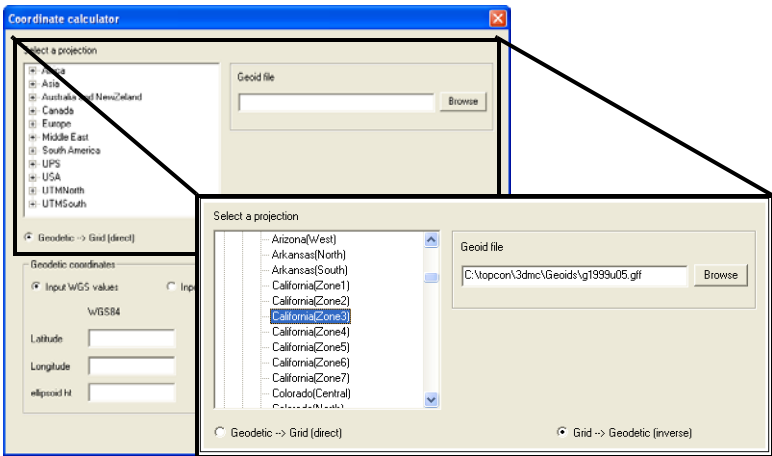

Figure 2-13. Select Projection, Geoid, and Transformation
2. Select the projection and the geoid (optional) to use in the calculation (Figure 2-13).
3. If the given coordinates are in a known grid system, click **Grid->Geodetic** to compute geodetic coordinates (Figure 2-13).